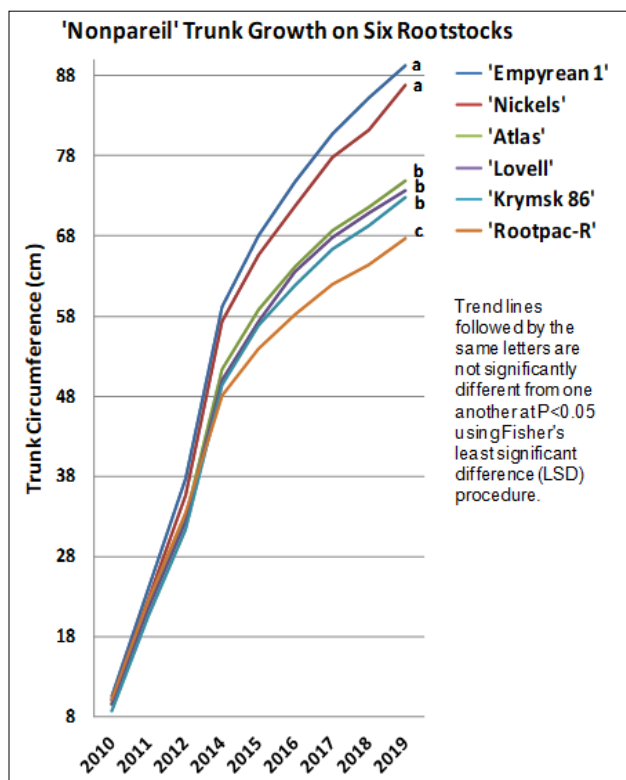

Figure 1. 'Nonpareil' trunk circumference on six rootstocks after ten growing seasons.
**Potassium (K) deficiency.** When first leafing out, potassium deficient trees appear pale in color and have small leaves with little new growth. These symptoms are more prevalent where soils are wet, cold, and saturated since root activity and nutrient uptake are reduced. Later, trees show rolled leaves with tip and marginal leaf burning. This symptom is classic when it occurs in the treetop on leaves in the middle of new shoot growth. The tip and margins of leaves become necrotic and this causes the leaf to roll and the tip to curl upward, a condition referred to as "Viking's prow" (see Figure 1). The Butte and Aldrich varieties are good indicators of this deficiency because they exhibit leaf scorching before Nonpareil and other varieties show symptoms.
**Figure 1.** Potassium deficient leaves show tip and marginal leaf scorching. First symptoms appear in the middle of new shoots in the tree top. More leaves are affected as the deficiency becomes more severe.
**Yield.** Peach-Almond (P-A) hybrids (except Hansen 536) consistently yield highest at the trial, while Krymsk 86 and Lovell consistently yield lowest, as can be seen looking at cumulative yields over the course of the trial (Figure 1). Hansen 536, despite showing no significant difference in terms of size, continues to be lower yielding than other P-A hybrids. In 2019, the orchard was in its 9th leaf. 2019 is the first year that Rootpac-R yields have grouped with Krymsk-86 and Lovell. Viking has consistently been in the middle of the pack, yield-wise.
**Figure 1.** Boron rootstock trial cumulative yield for 3rd through 9th leaf (2013-2019). Scaled from the 5-tree sample average to per acre yields based on the 110 trees per acre spacing.
**Tree size.** After ten growing seasons, trees on 'Empyrean 1', a peach hybrid, are largest in circumference followed by trees on the 'Nickels' peach/almond hybrid. Trees growing on 'Atlas', an interspecific hybrid (peach/almond x apricot/plum), 'Lovell' peach, and the peach/plum hybrid, 'Krymsk 86' are similar in trunk circumference. Trees on 'Rootpac-R', a plum/almond hybrid, are the smallest in circumference and are the weakest growing trees in the trial (Figure 1). Once trees came into bearing the most vigorous rootstocks continued to increase tree size while tree size on less vigorous rootstocks began to fall behind (Fig.1). Canopy width (Table 1) gives an indication of how well the trees have filled their space across the 24 foot wide orchard middle.
The intermediate yield noted on 'Lovell' and on 'Krymsk 86' rooted trees appears to be related to tree size and nut set since both trees and kernels on these rootstocks are similar in size. Although similar in trunk circumference to trees on both 'Lovell' and 'Krymsk 86', the larger canopy of trees on the 'Atlas' rootstock often produced both larger nut size and a significantly greater yield (Fig.1 and Tables 2 & 3). Accumulated 'Nonpareil' yield through the 10th leaf is greatest on the 'Nickels' and 'Empyrean 1' rootstocks (Table 3) as these are the largest trees in the trial.